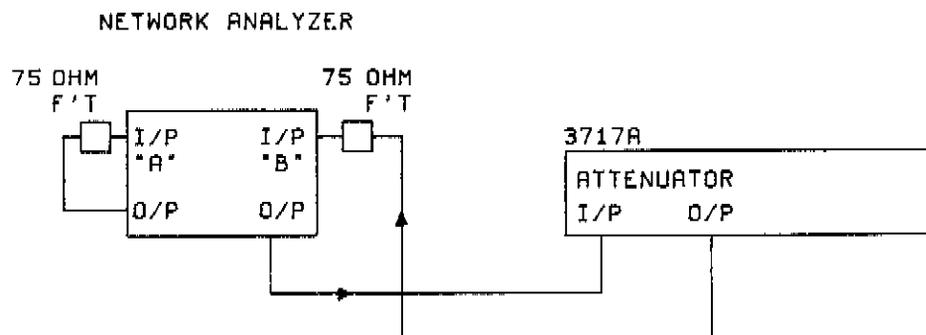

Figure 4-17 Attenuator Range & Low Frequency Response Test
6. Connect the "B" OUTPUT of the Analyzer to the Attenuator INPUT and the "B" INPUT to the Attenuator OUTPUT as Figure 4-17.